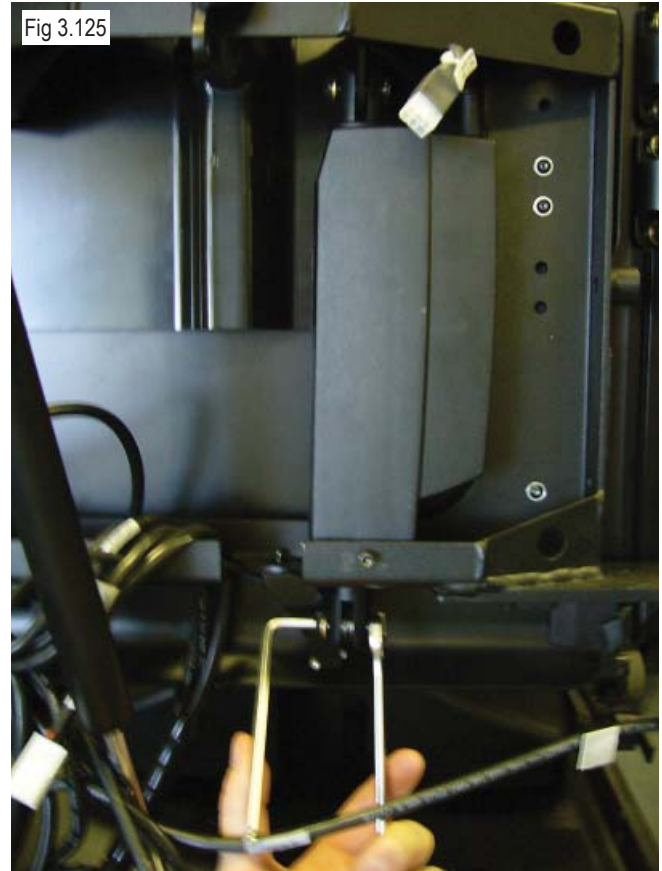

Fig 3.125
2. Unplug the shear actuator by disconnecting the 6-pin connector (Fig 3.125).